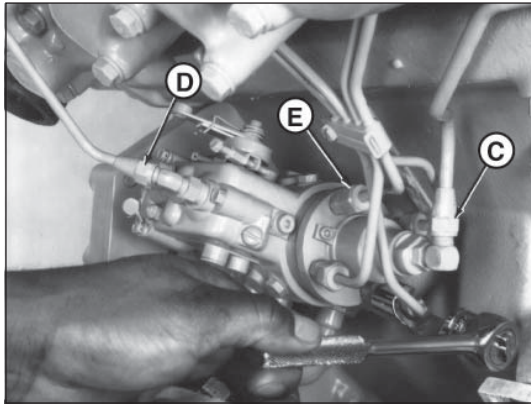
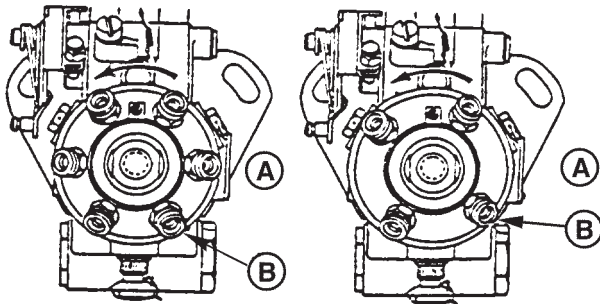

Figure 26 Reproduced by permission of Deere & Company, c.2005. Deere & Company, All rights reserved.
Figure 27 Reproduced by permission of Deere & Company, c.2005. Deere & Company, All rights reserved.
11. Connect injection pump pressure lines (Figure 26-E). Beginning with outlet connection to #1 cylinder (Figure 27-B) and continue around the pump head in counter-clockwise direction, attaching lines in same order as engine firing (1-5-3-6-2-4 on 6-cylinder engines and 1-3-4-2 on 4-cylinder engines).
13. Connect fuel supply line (Figure 26-C) and fuel return line (Figure 26-D).